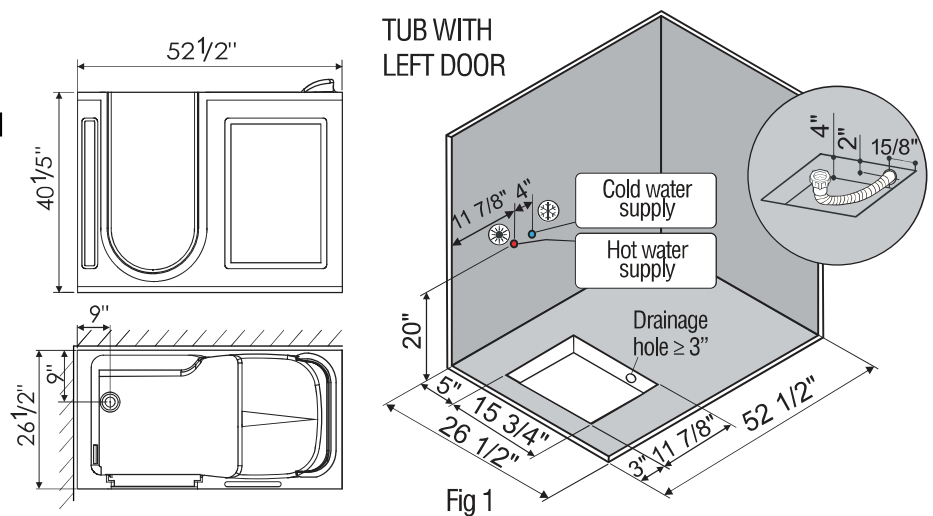
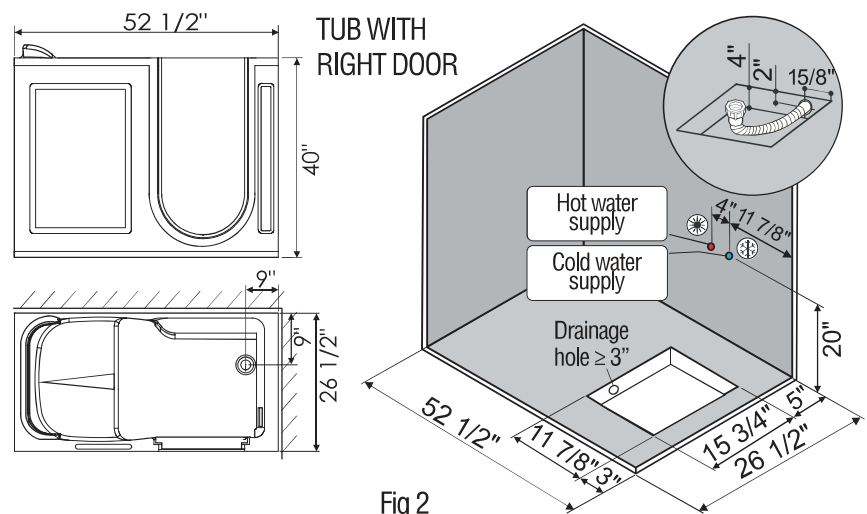

Fig 1
Fig 2
1. Position the tub by referring to the corresponding figures on the right. Make sure the Hot and Cold water suppliers and the drain hole are at the place shows in the figures. (Fig 1, Fig 2)